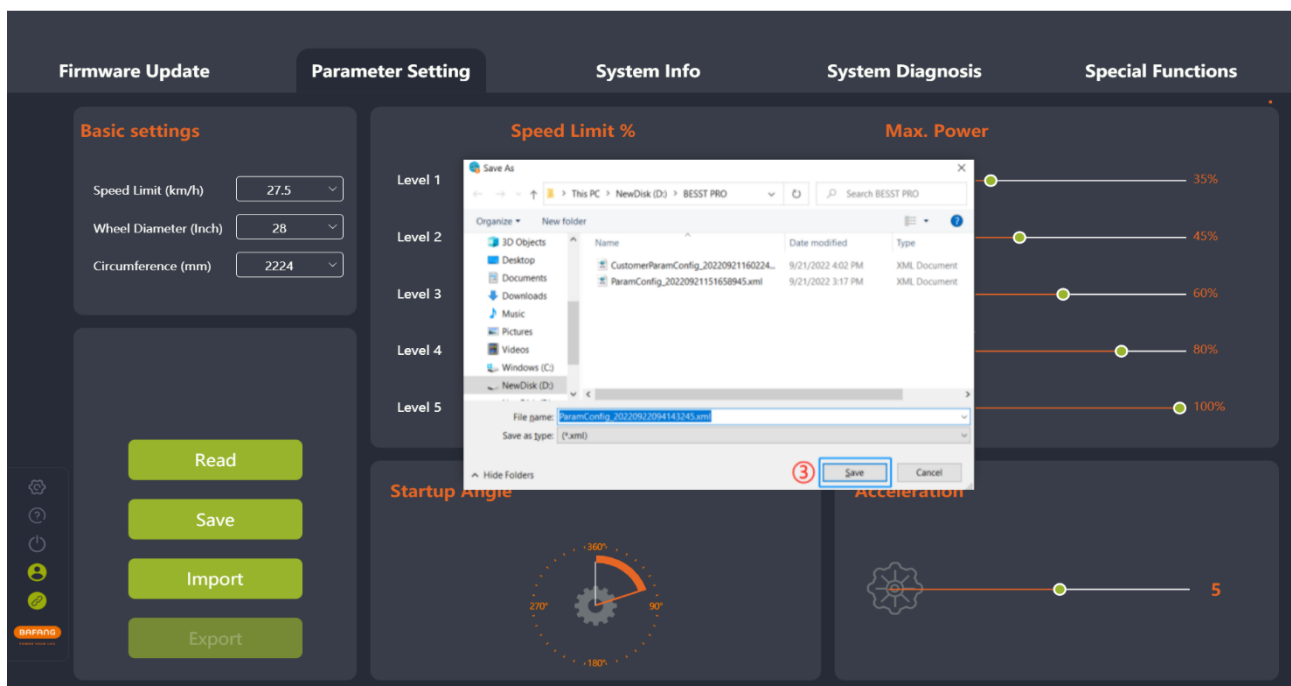

Fig. 5-10 Export
- (2) Export the configuration information of the parameter interface and the controller hardware version (for import verification) to a file and save it locally. The path can be chosen independently and the file name can be edited, for example: ParamConfig_20220922094143245.xml (Fig. 5-10).